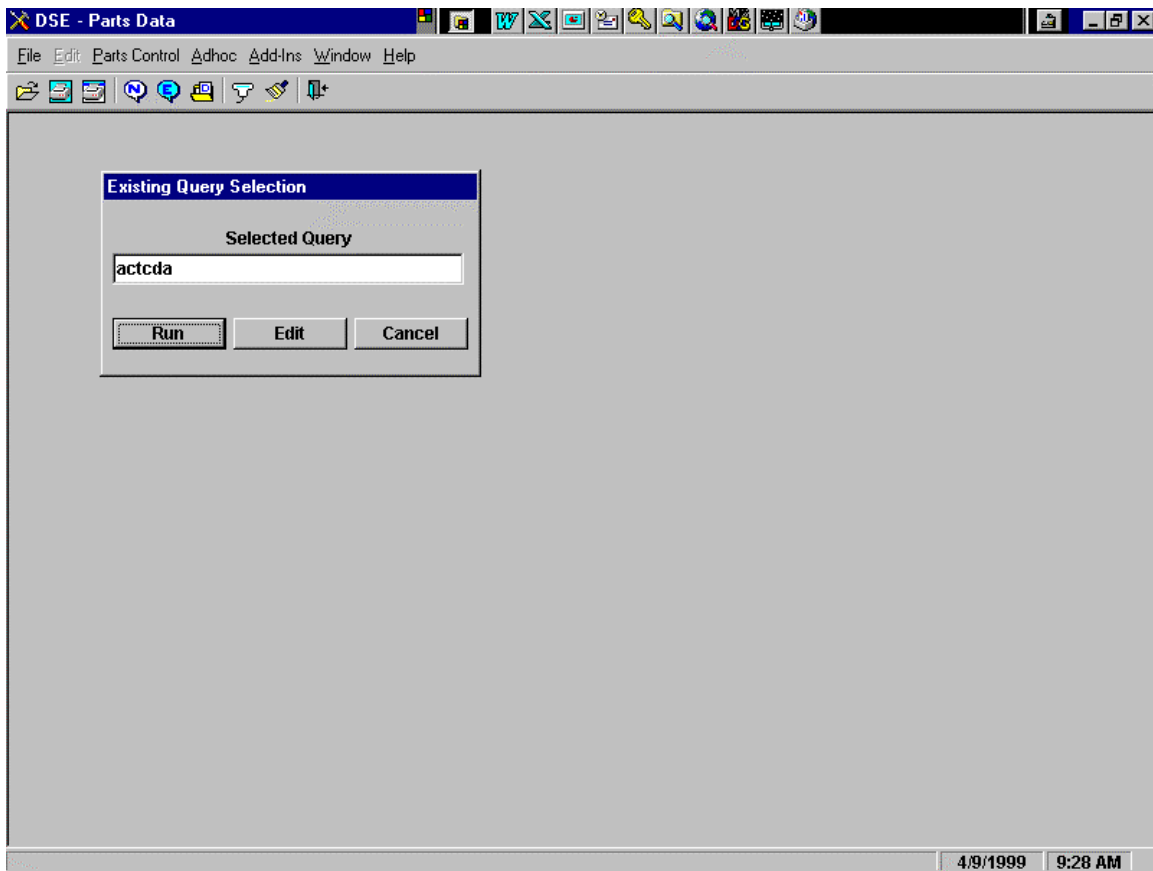

Figure 5.6a
5.6 REUSING YOUR SAVED QUERY - See Figure 5.6a.